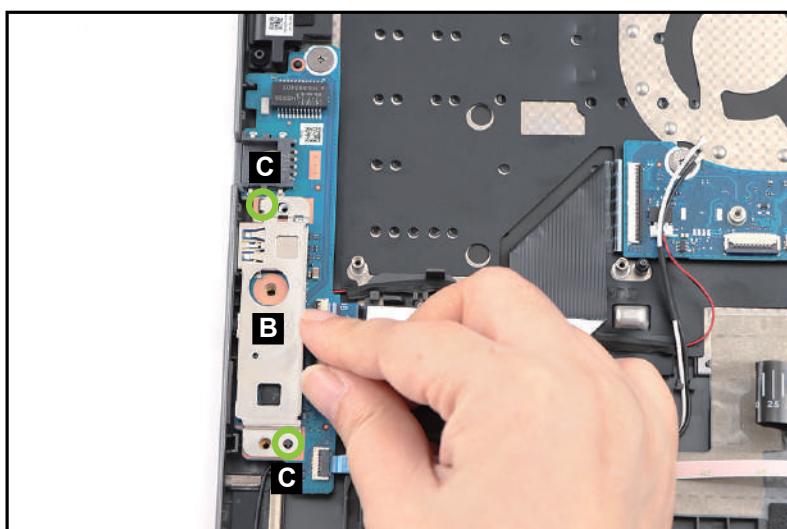

Figure 3-61. Mainboard Removal
2. Lift the left IO bracket (B) to release it from the guide pins (C) (Figure 3-61). Then remove the IO bracket.